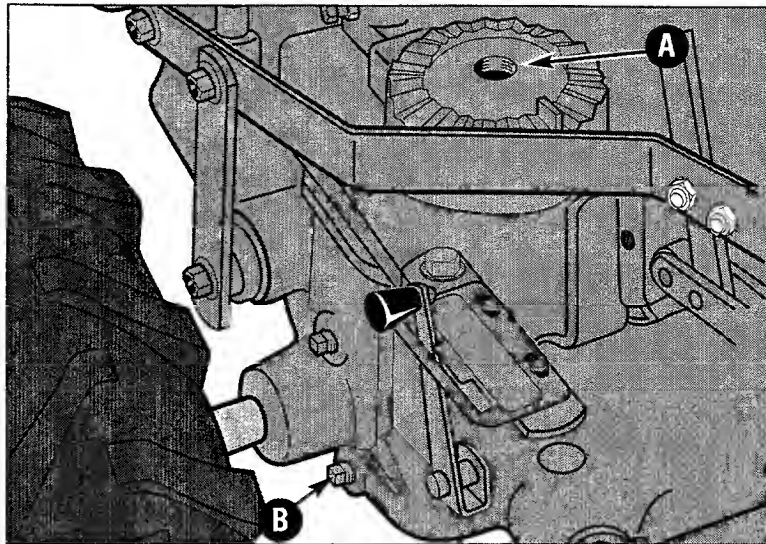

Figure 5-9: Gear oil fill hole (A) and gear oil drain location (B).
Then, unplug the Forward Interlock wire harness receptacle at the bottom of the handlebars. Set the handlebar base and bolt aside on a clean surface. The bolt hole in the top of the transmission is the gear oil fill hole. See Figure 5-9.
1. Place a shallow pan under the transmission gear oil drain plug (refer to B, Figure 5-9).
3. Using the 3/8" wrench, remove the drain plug (B, Figure 5-9). The gear oil will drain quite slowly since it is thick. After about two quarts have drained, tilt the tiller